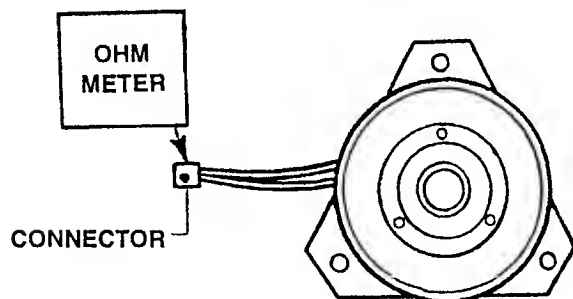

FIGURE 3.10
2. Disconnect Clutch Wire connections. See Figure 3.10.
3. Connect OHM Meter leads to the two wires in the Clutch Connector. Refer to Figure 3.10.